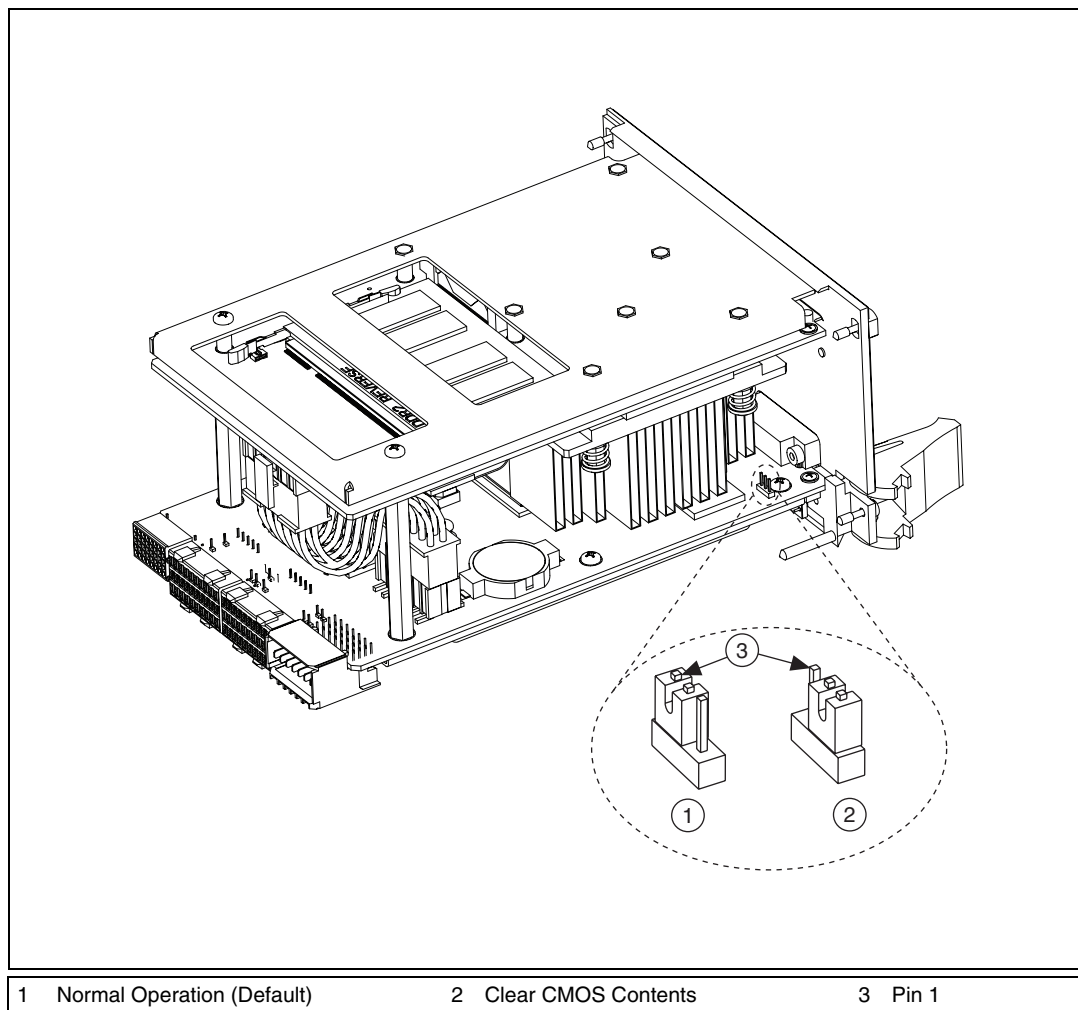

Figure 2-3. Clearing the CMOS Contents
3. Move the jumper on W2 from pins 1–2 to pins 2–3, as shown in Figure 2-3.